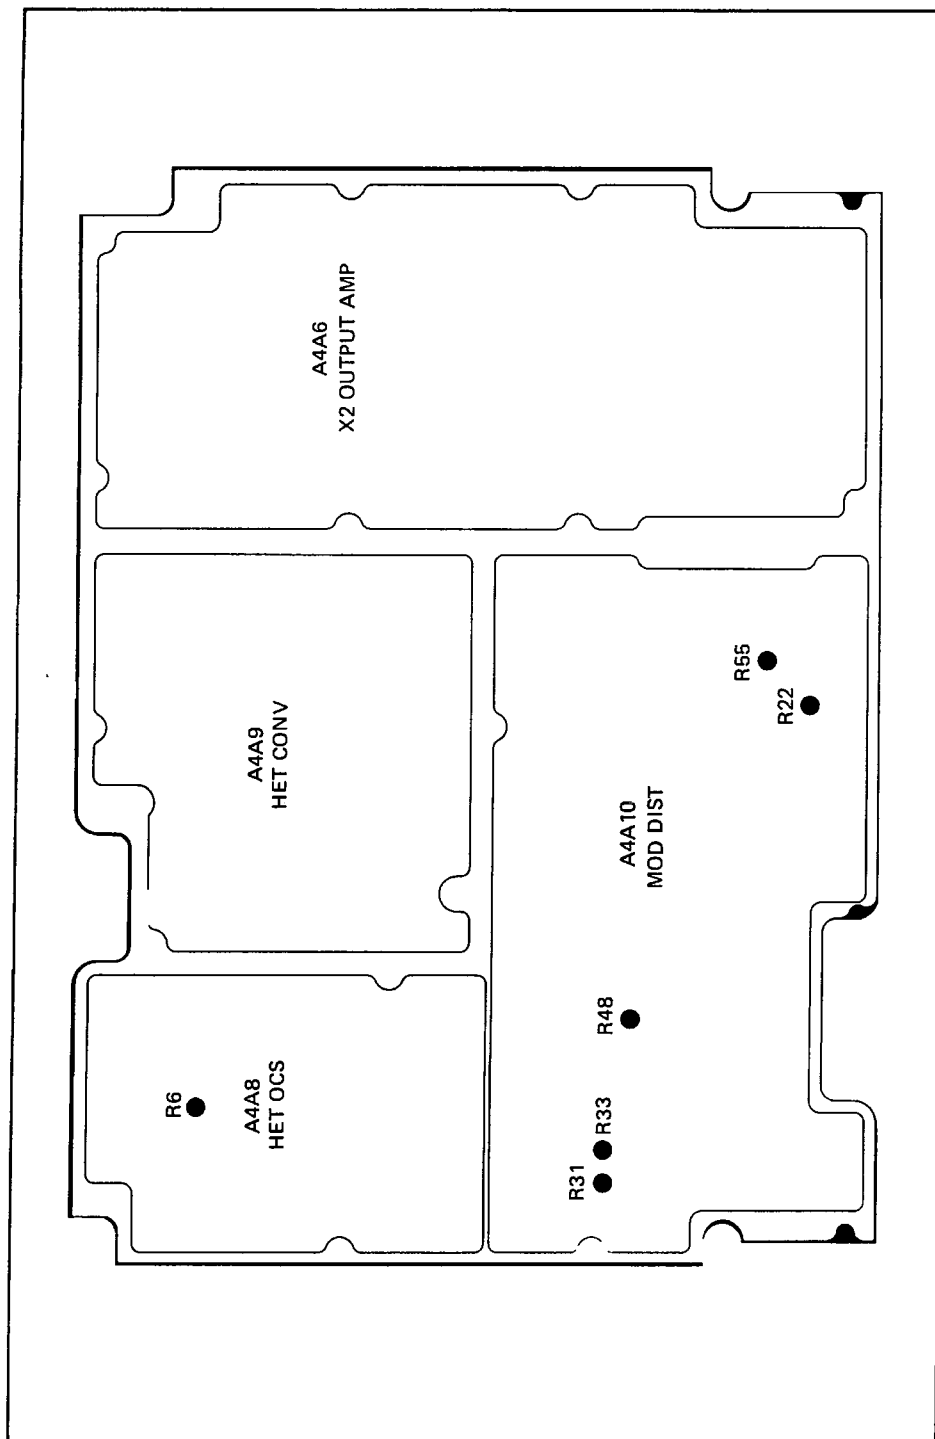

Figure 6-5. FM/PM Adjustments - Output Plate
4. Adjust R33 on the A4A10 Mod Distribution PCB (Figure 6-5) for a reading of 100.1 kHz on the Modulation Analyzer.
6. Adjust R31 on the Mod Distribution PCB (Figure 6-5) for a reading of 100.1 kHz on the Modulation Analyzer.
15. Adjust R48 on the Mod Distribution PCB (Figure 6-5) so that the readings in Steps 13 and 14 are symmetrical about 100.1 kHz. (It will be necessary to shift in and out of the HI DEV Mode (special functions 20 and 21) in order to make this adjustment).
17. Program the UUT Modulation Frequency to 1 kHz and turn on the INT FM/ $\emptyset$ M control. Adjust R6 on the A4A2 Mod Oscillator PCB (Figure 6-5) so that the Modulation Analyzer reading is the same as the reading recorded in Step 16.
4. Allow the Modulation Analyzer to settle, and record the settled reading. Press -PEAK and record the new reading. Adjust R22 on the A4A10 Mod Distribution PCB (Figure 6-5) so that the readings are symmetrical about 70.0% AM. Press +PEAK and -PEAK as necessary for new readings.
8. Adjust R55 on the A4A10 Mod Distribution PCB (Figure 6-5) for a reading of approximately +5 dBm on the Power Meter.